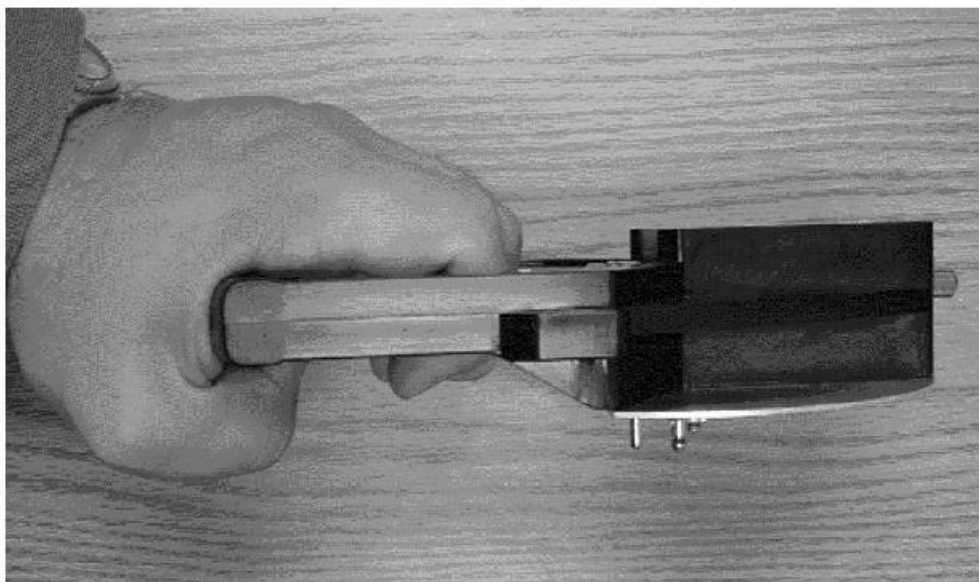

Figure 2 Gripometer lever on second phalanx in gripping action
- b. Check to see if it is a good fit by asking the respondent to grip the gripometer-the middle section of their fingers should be flat across the top of the metal bar (see Figure 2). If they are not you will need to adjust it.